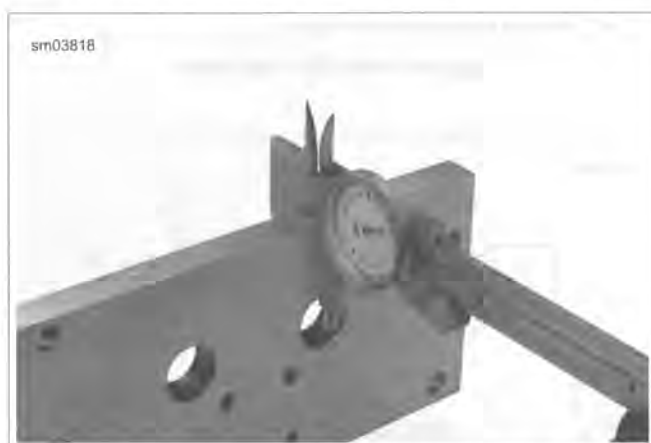

Figure 3-101. Measure Thickness of Support Plate
2. See Figure 3-101. Using a dial caliper, measure thickness of support plate.